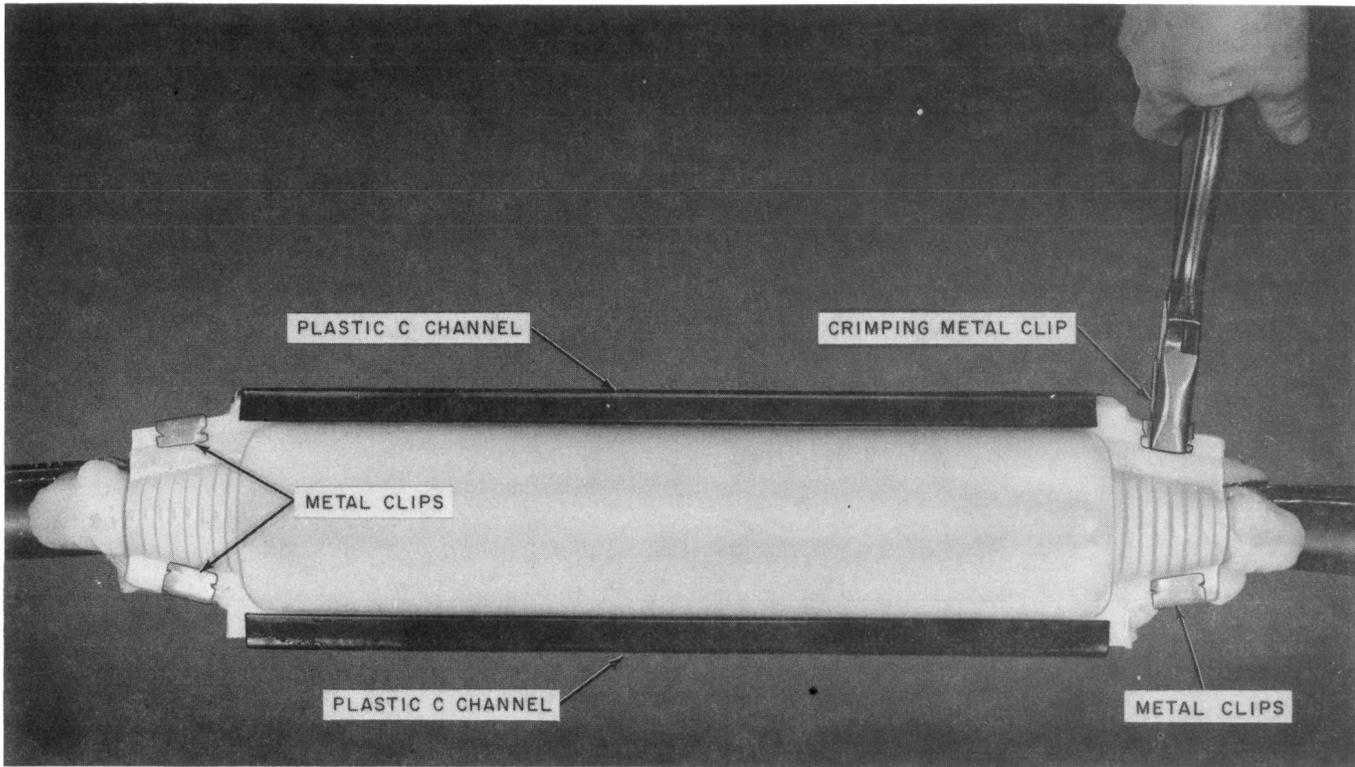

Fig. 17—Installing Metal Clips
3.18 With pliers crimp the metal clips on the closure as shown in Fig. 17.